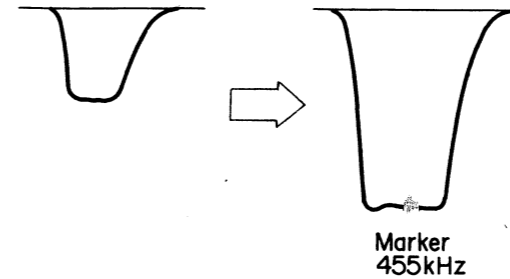

Fig. 3-9 A-M I-F Response
- Turn the top core of IFT 301 to obtain a maximum and symmetrical response. See Fig. 3-9.